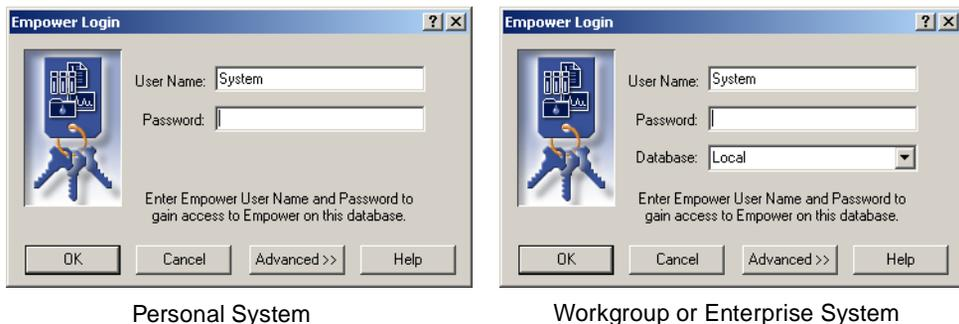

Figure 1-1 Empower Login Dialog Box
1. To start Empower software, select **Start > Programs** (for Windows XP, **All Programs**) > **Empower > Empower Login**. The Empower Login dialog box appears (Figure 1-1).